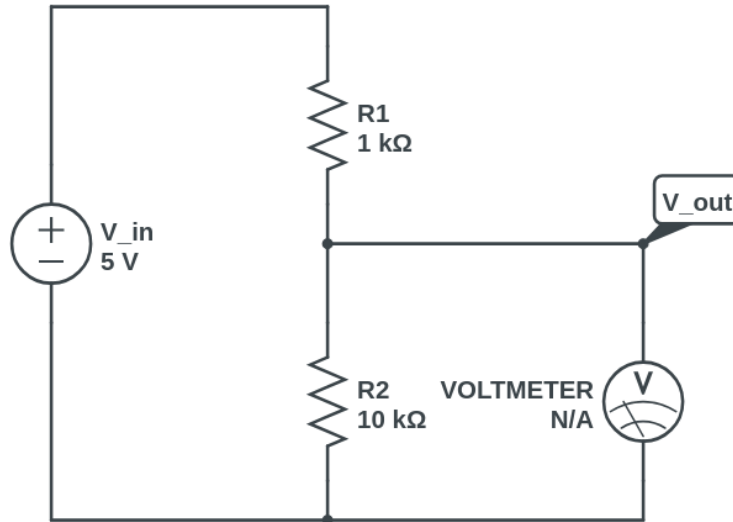

Figure 6: Voltmeter operation for VDR
1. Construct the voltage divider circuit as shown in Figure 6. Use the resistors from the previous exercises. **Record the resistor values for R_1 and R_2 .**